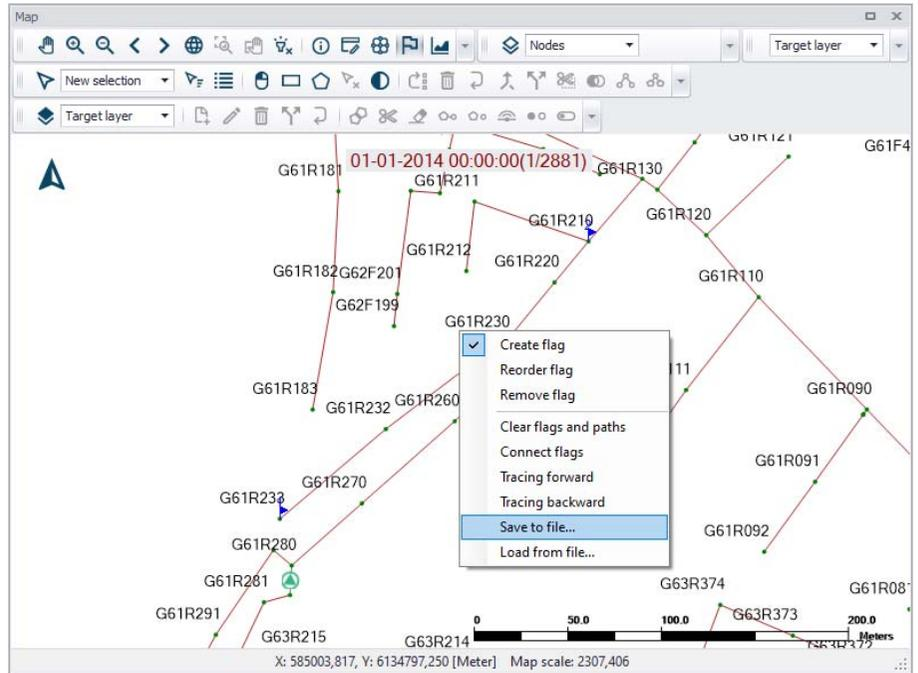

Figure 19.32 Set flags defining the path of the profile plot on the model map
- Click on the starting node for the profile path. This will place a small flag next to the node along with the number of the flag (Figure 19.32).
- Continue setting flags on the map until the path is well-defined. The horizontal plan will then look as seen in Figure 19.32. You may save the set flag information using the 'Save to file...' option from the local context menu. The path information is saved to a *. PATH file, which can be loaded in another session via the 'Load from file...' option.